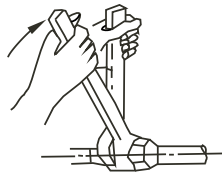

Fig. 4-4
- Be sure to use both a spanner and torque wrench together when connecting or disconnecting pipes to /from the unit. (Fig. 4-4)